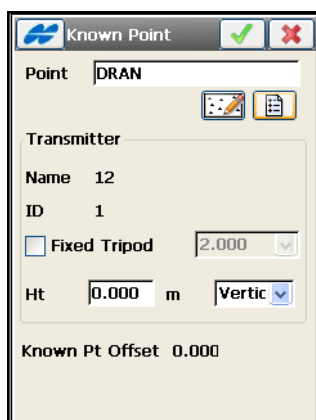

Figure 8-44. Known Point
- *Known Point Offset* – opens the **Known Point** screen (Figure 8-44 on page 8-42).
On the *Known Point* screen (Figure 8-44) select the known point over which the transmitter is setup and enter the transmitter height.
- *Known Trans Horz Pos* – if enabled, then after pressing the **Init Sensor** button, the **Known Point** screen (Figure 8-44 on page 8-42) displays. Select the point over which the transmitter is setup.